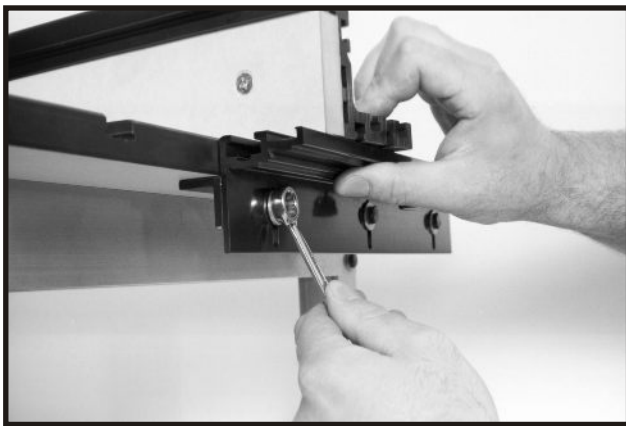

FIG. 7
8. Place the fence on the table top in it's upright position and allow it to hang over the table edge and lie across the front end of the fence track. Raise the fence track assembly so that it is positioned flush to the bottom of the fence as it rests on the table top. With a 7/16" wrench or socket tighten the front bolt of the fence assembly (Fig. 7). Move the fence back and use it to position the rear end of the bracket in the same way and tighten the rear bolt. Then tighten the center bolt to complete the leveling of the fence track.